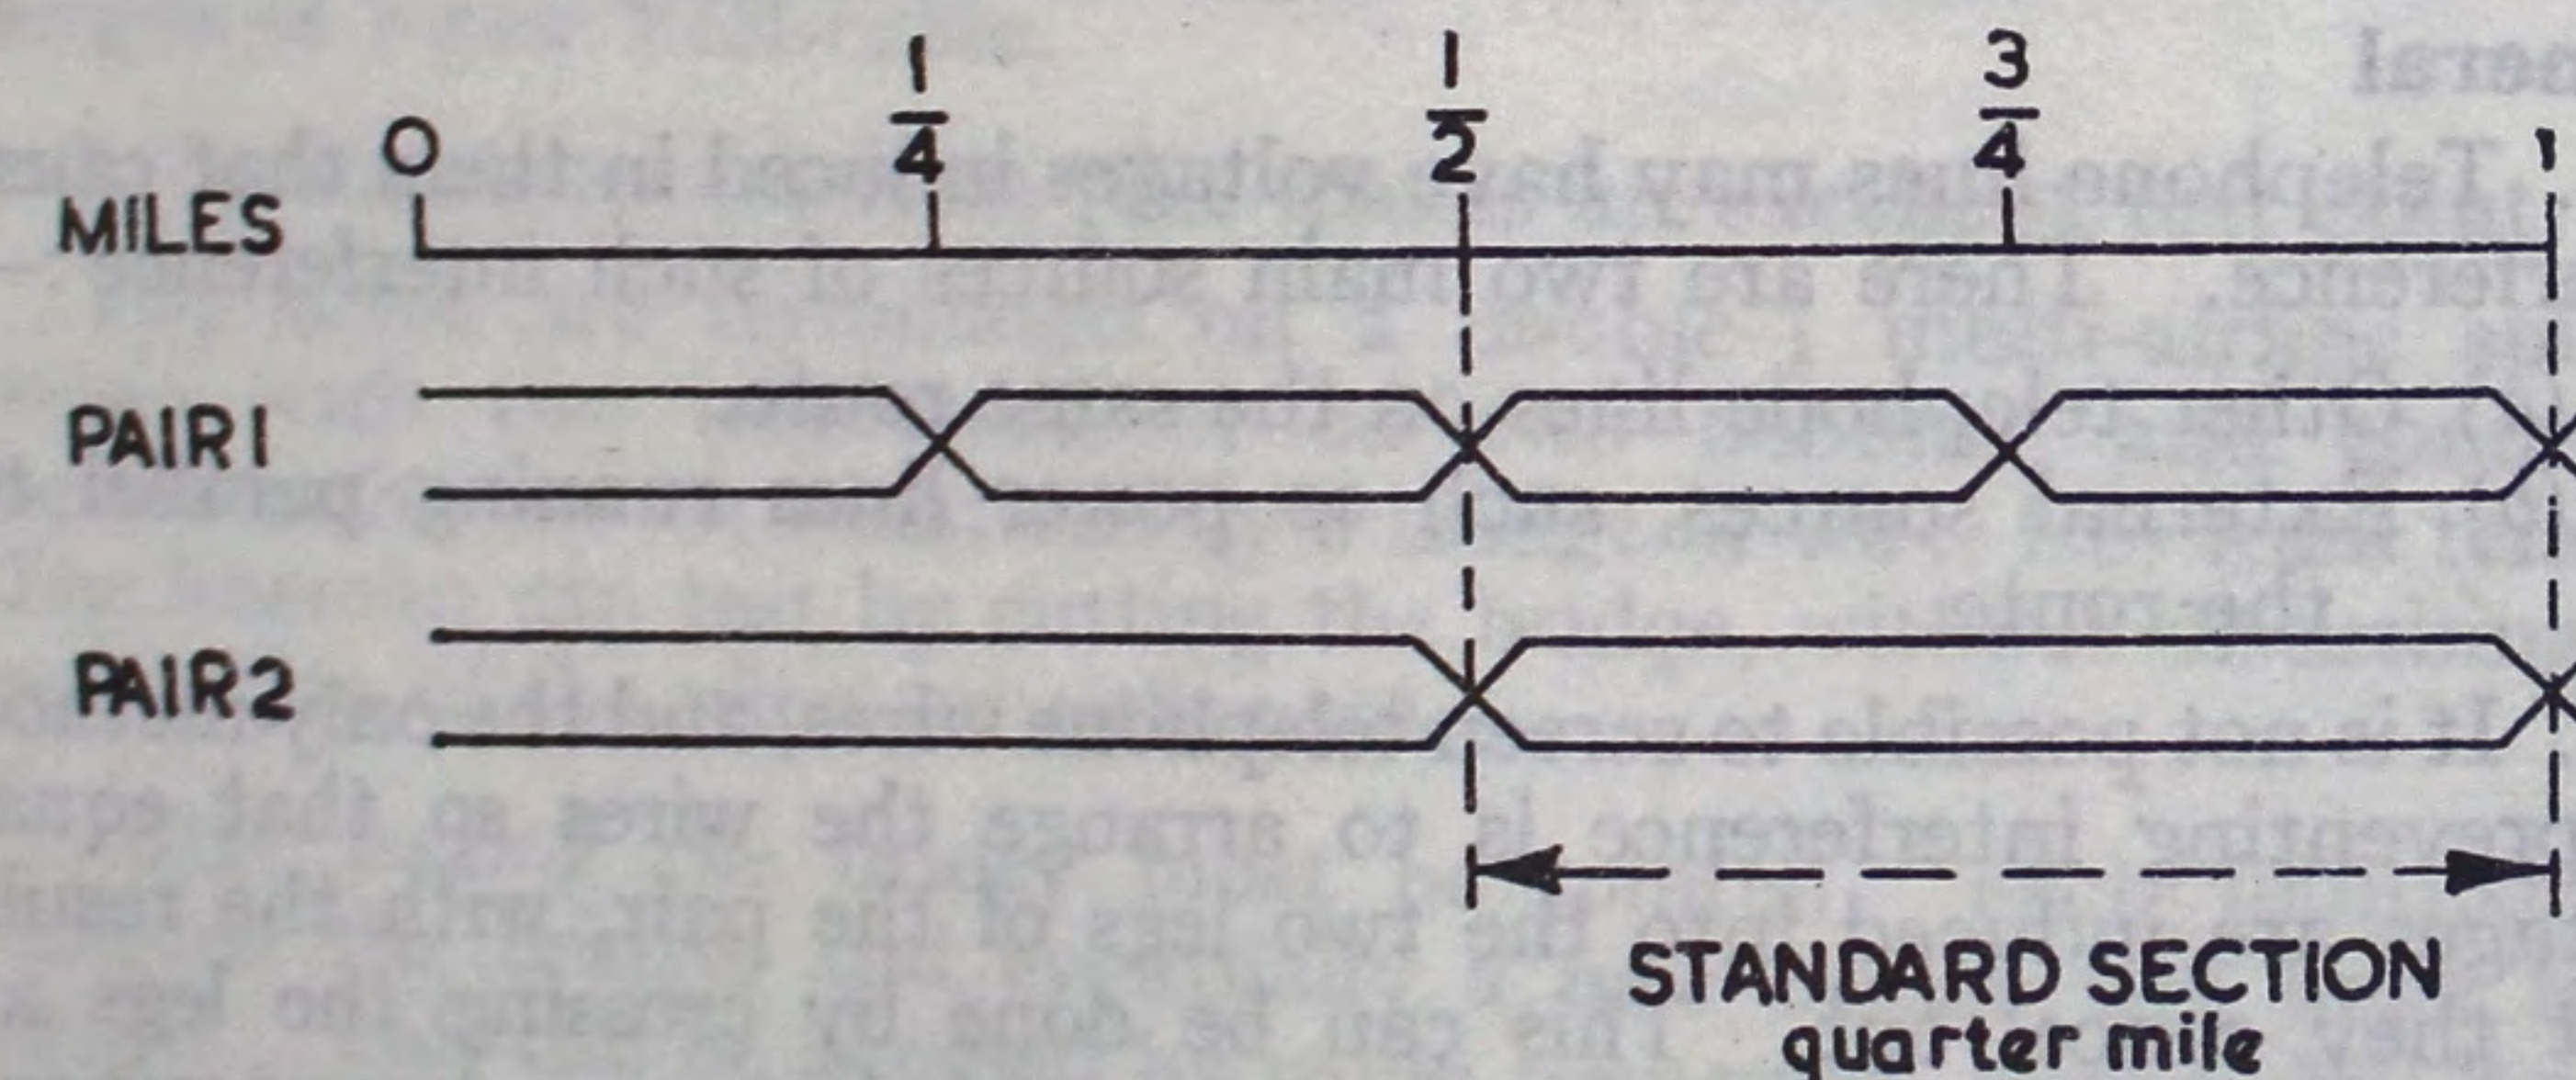

Fig 6.—Standard transposition section for carrier routes
8. **Standard transposition system for carrier routes.**—One pair of wires is transposed every quarter-mile, and the other pair every half-mile (see Fig 6).